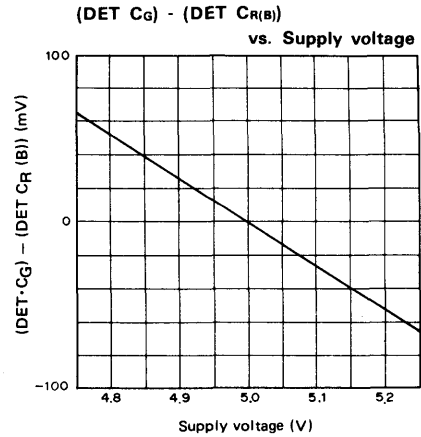

Fig. 6
The change due to the power supply fluctuation when 250mV is input to pins (6), (8) and (7), and the E5 and E6 are adjusted so that they become (G DET-R/B DET) = 0mV. (Fig. 6)